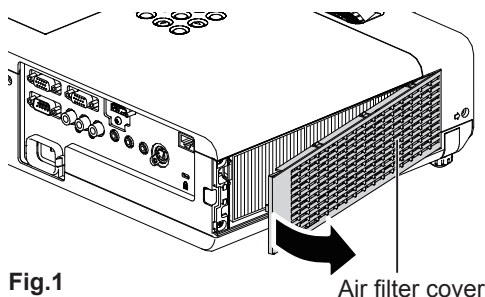

Fig.1
1) Remove the air filter cover. (Fig.1)